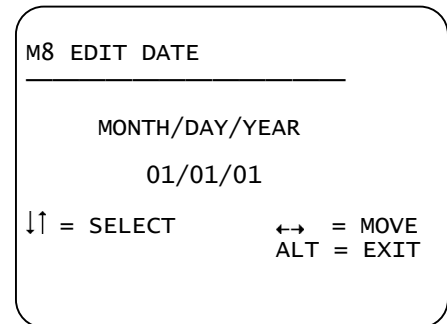

Figure 18. Edit Date menu
- 4) Press **2** to advance to the Edit Date menu (Figure 18).